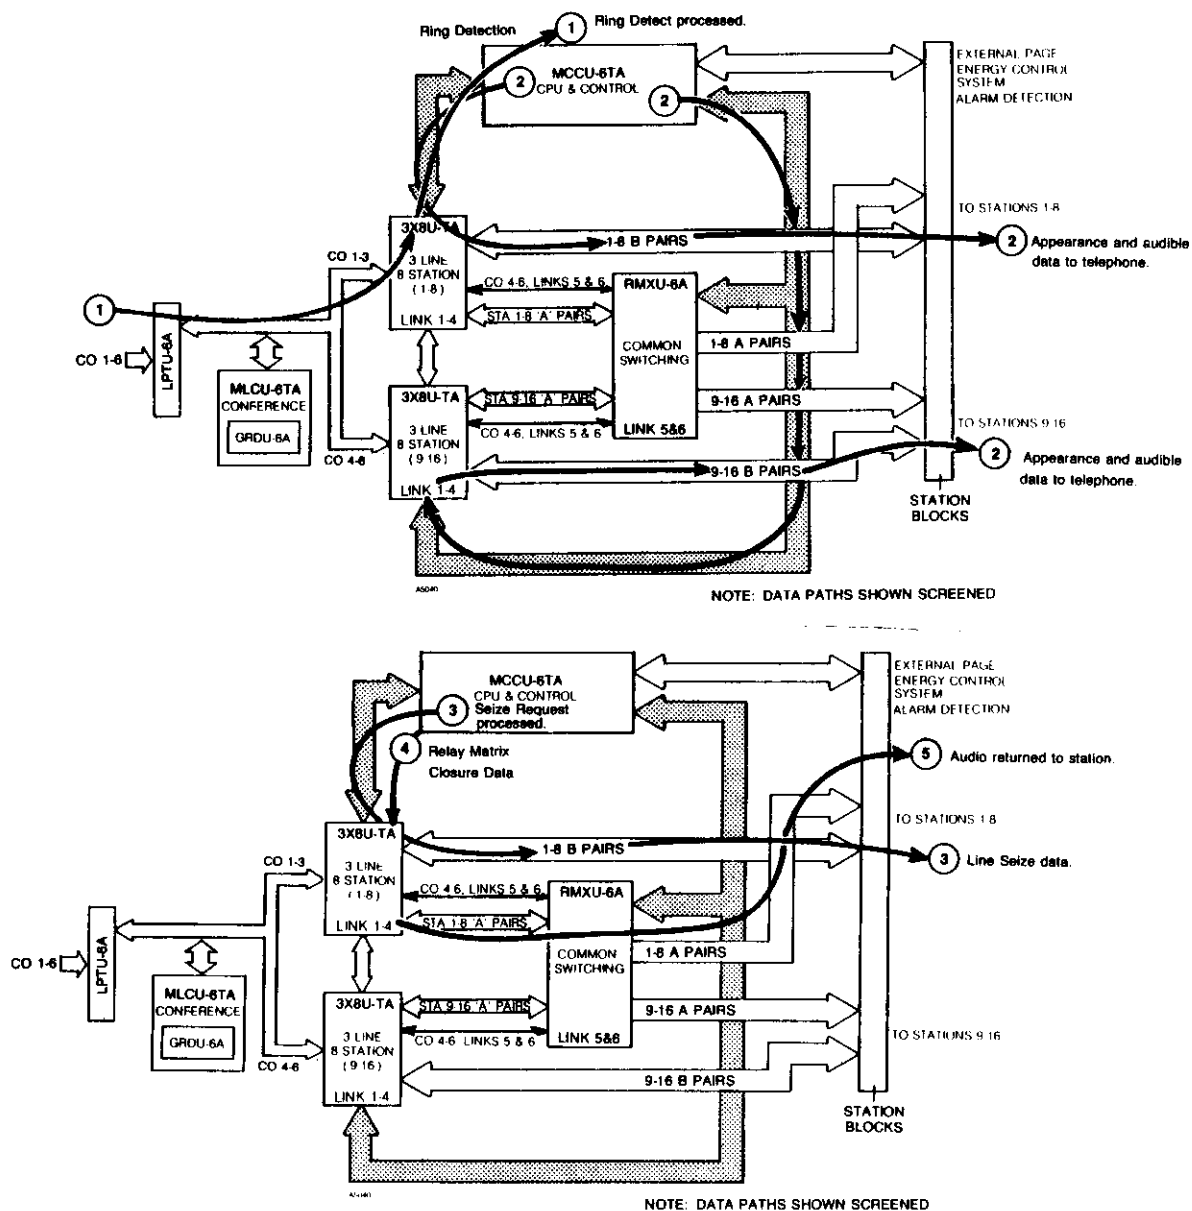

Figure 7-13 RECEIVING AN OUTSIDE CALL, EK-616
9.01 An incoming call (Figure 7-13, signal 1) will be passed through the LPTU-6A PCB fusing circuits, shunted around the -Z networks on the MLCU-6TA PCB, and presented to the appropriate line circuit on the 3X8U-TA PCB. Ring detection will occur, with the ring detect pulse presented to the MCCU-6TA PCB for processing (Figure 7-13, signal 1). The CPU will generate line appearance and audible data (Figure 7-13, signal 2) to all system telephones. Audible and line LED flashing will occur on all subsets (if programmed).
9.02 If the telephone user desires to seize the incoming call, the appropriate line key is pressed. On the next query, key closure (line seize) data (Figure 7-13, signal 3) is sent to the CPU (via gating on the station interface) for processing. Under program control, the appropriate relay matrix closure occurs (Figure 7-13), signal 4) and the CO line is connected to the "A" pair of the station which placed the request (Figure 7-13, signal 5). The LED dedicated to the line seized illuminates steadily to indicate that the CO line to station connection is now in effect.